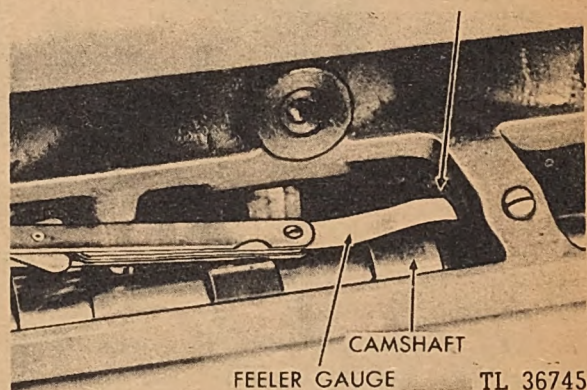
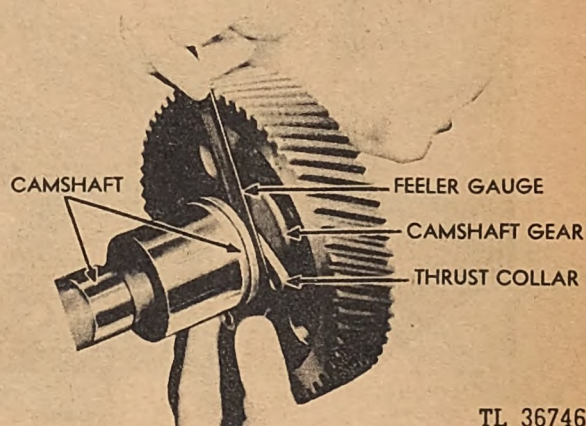

Fig. 93. Checking Camshaft to Bushing Clearance
Fig. 94. Checking Camshaft End Play
(2) Carefully pull the camshaft out a few inches and check the camshaft end play as shown in Figure 94. The desired camshaft end play is .003 inch to .009 inch; permissible is .015 inch. Check the camshaft bushing clearance with a feeler gauge between each of the four bushings. (See Figure 93.) The clearance should be between .0014 inch to .004 inch; permissible .006 inch. If the clearance exceeds the permissible, replace the bushing.
The camshaft end play, which can be checked between the hub of the gear and the thrust collar, as shown in Figure 94, should be between .003 inch and .009 inch; maximum before replacement .015 inch. If the clearance is more, the thrust collar should be replaced.
d. *Checking Camshaft Bushings.* The camshaft runs in four bronze bushings which are pressed in the crankcase. The desired camshaft bearing clearance is between .0014 inch and .004 inch and can be checked with a feeler gauge as shown in Figure 93. If the clearance exceeds .006 inch, the bearings must be replaced. The bearings are of the precision type and do not require reaming after being pressed into the case.